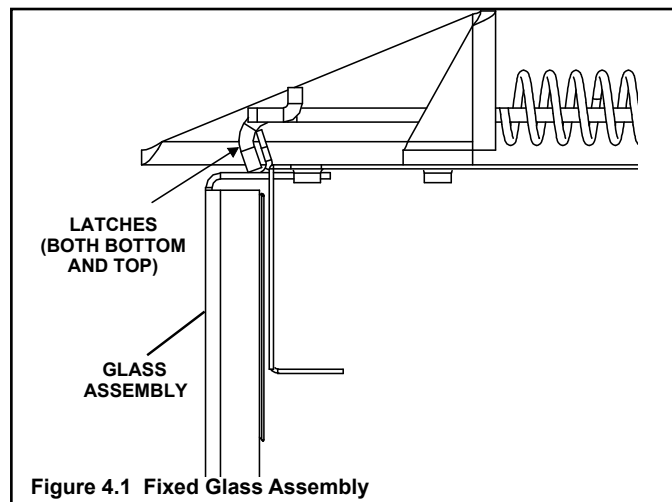

Figure 4.1 Fixed Glass Assembly
- Pull the four glass latches out of the grooves on the glass frame top and bottom. See Figure 4.1.
- Pull out the four glass latches and place in the grooves on the glass frame top and bottom. See Figure 4.1.